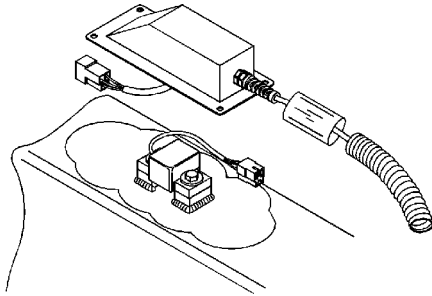

Figure 9
- BOTH ARMS:** Position the sensor cover, mark through and drill and tap M6. Slip the heat shrink and conduit over the sensor cable (fig.9)...